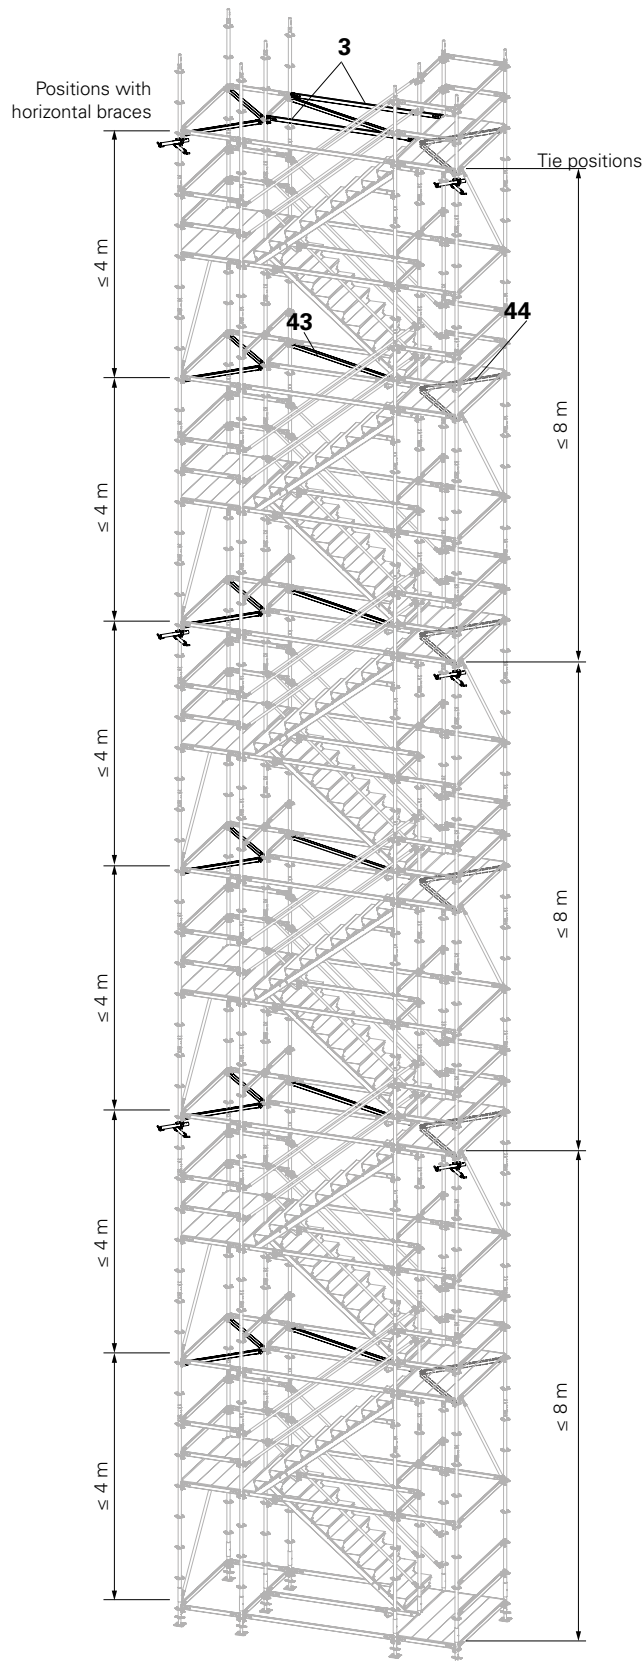

Fig. A3.10
Fig. A3.10 shows the view from the building side.
2. Fit H-Braces UBH Flex (**43 / 44**) every 4.0 m (Fig. A3.10)
Brace with Horizontal Ledger UH-2 250 (**3**) (instead of Horizontal Ledger UH-2 200 and the Stair Stringers UA). (Fig. A3.10)